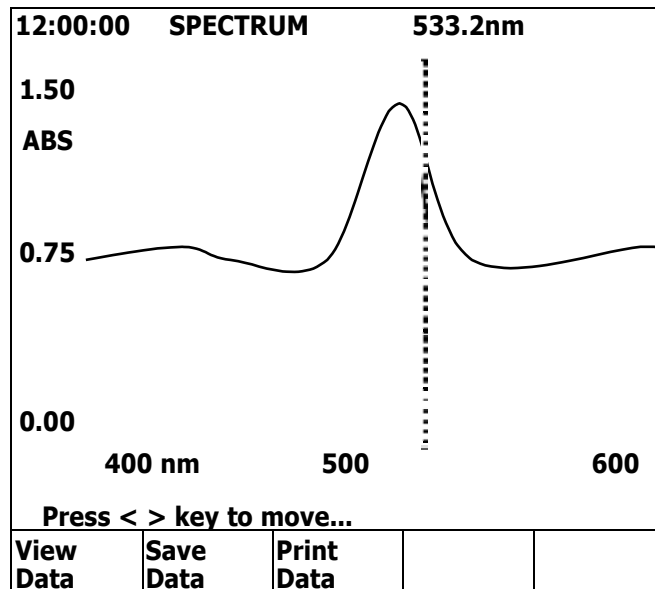

Figure 6.6 Graph under Show Track function
Step 7. If users want to trace readings of measurement result, function Show Track is designed for this purpose. Pressing F3 Show Track will make a dotted vertical line showing up in the graph (Figure 6.6). Use left/right arrow keys to move the dotted line one pixel in the corresponding direction. Use up/down arrow keys to move dotted line ten pixels in right and left directions respectively.